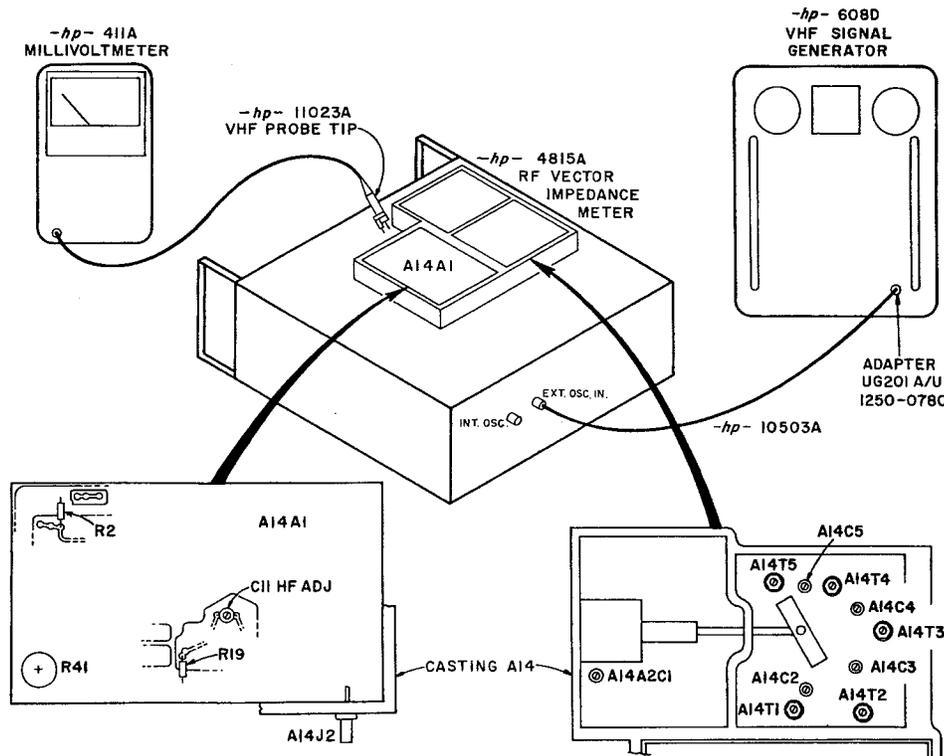

Figure 5-8. Setup for Modulator-Oscillator Adjustments
- a. Connect equipment as shown in Figure 5-8. Remove bottom cover plate on A14.
- a. Remove bottom cover on A14. All adjustments are made from bottom. Refer to Figure 5-8 for location of adjustments.